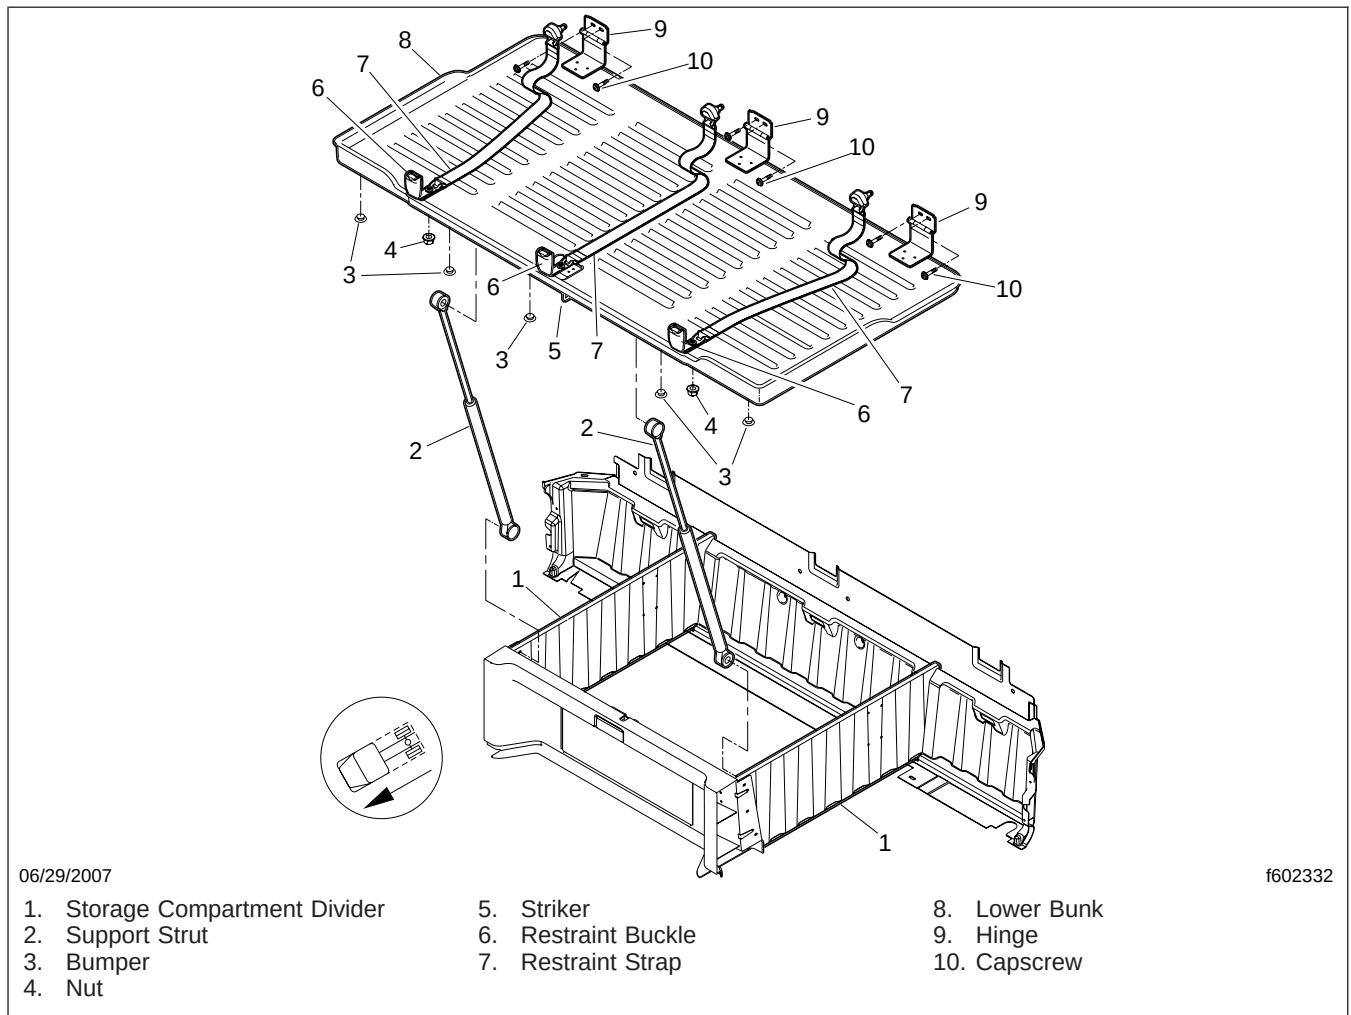

Fig. 1, Lower Bunk Installation
4. Remove the three bunk restraint straps, as follows; see **Fig. 1**.